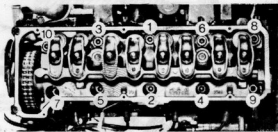

Fig. 1.12. Correct sequence for tightening the cylinder head bolts (Secs. 10, 14 and 47)
- 11 Now undo and remove the cylinder head bolts with the special tool in the reverse order to tightening (Fig. 1.12.). Note that there are two additional bolts at the front of the cylinder head that thread directly into the timing cover. These should be removed first, using an Allen key, to avoid damaging the aluminium threads in the timing cover as the gasket clamping load is released.